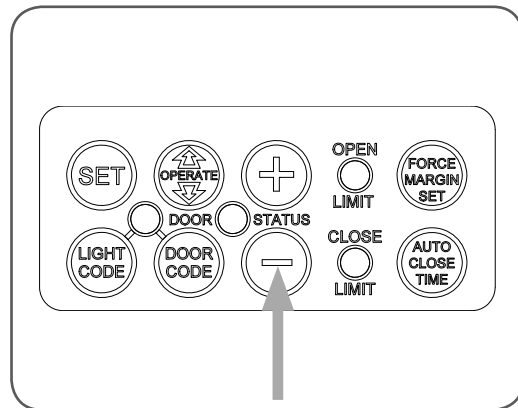

fig 23
- Press and hold the MINUS (-) button - the door will start closing (**Fig. 23**).